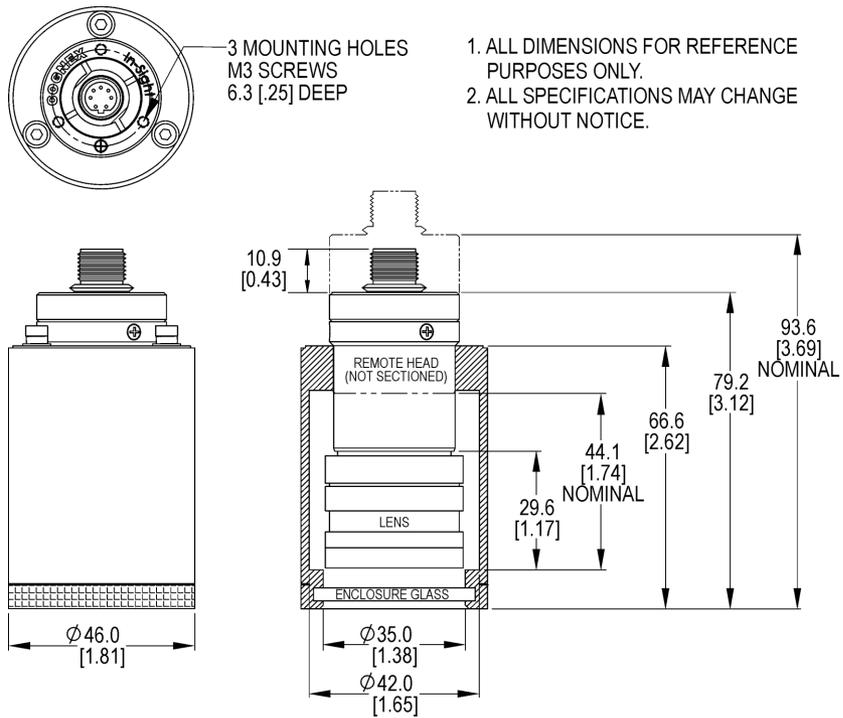

Figure 5-9: In-Sight 5400R Remote Head Camera Enclosure Dimensions
1. Attach the remote head camera bracket (item 4) to the mounting surface (Figure 5-9).
2. Attach the remote head camera (item 5) to the remote head camera bracket using three M3 x 8mm Phillips head screws (item 3).
3. If required, slide the Lens Tube (item 6) over the remote head camera (item 5) and secure to the remote head camera bracket (item 4), using four M4 x 18mm cap screws (item 1) and lock washers (item 2).